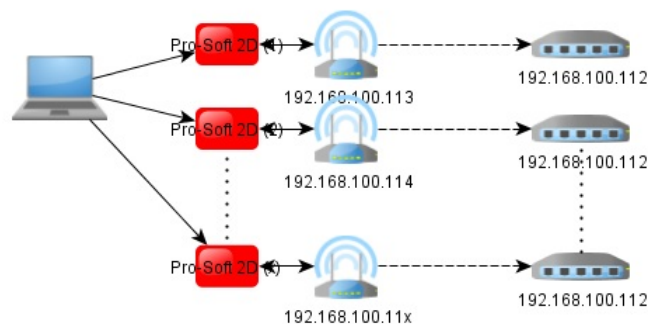
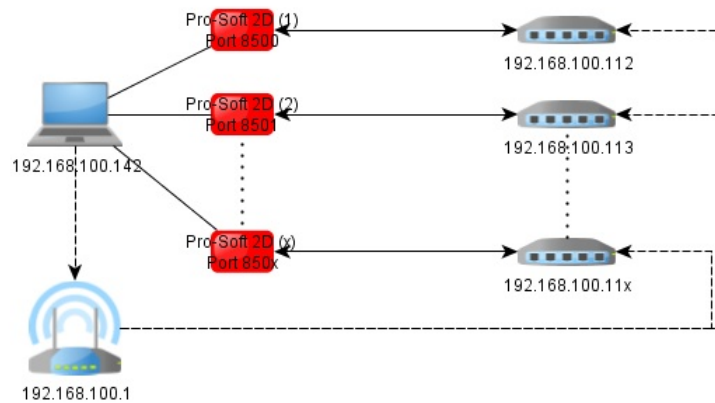

Figure 1: Network diagram for multiple instances using different IPs
Figure 2: Network diagram for multiple instances using different ports
cards as gateways. Then, each instance can bind the port of one of these cards (figure 1). Beginning with gateway firmware 1.3 another workaround is possible. With this version you are able to change the port the gateway should answer to. Therefore, communication with the gateways using multiple instances is enabled with just one single network card by using different ports for each instance (figure 2).
- In a wireless network an access point with an IP in the same subnet – in figure 2 it has the IP 192.168.100.1